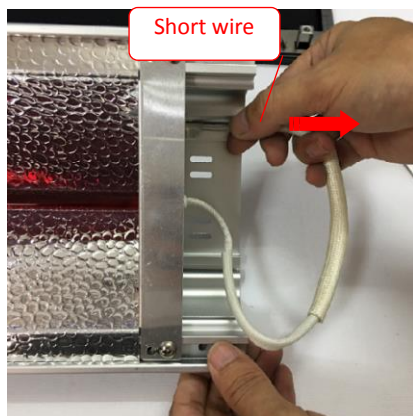

Fig.13
9. Pull the element wire from the groove of the housing, as shown in Figure 13 and 13.1 below: